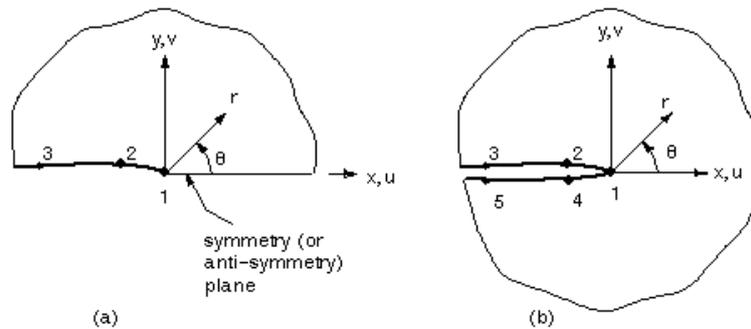

Figure 3) The paths defined for (a) a half-crack model and (b) a full-crack model
- ✓ Define a path along the crack face. The first node on the path should be the crack-tip node. For a half-crack model, two additional nodes are required, both along the crack face. For a full-crack model, where both crack faces are included, four additional nodes are required: two along one crack face and two along the other. Figure 3 shows the two cases for a 2-D model.